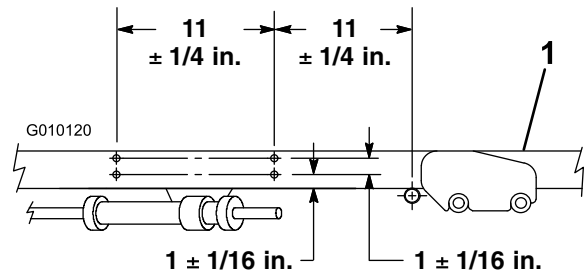

Figure 4
- Using the dimensions shown in Figure 4, locate, mark, and drill 4 holes (9/32 inch diameter) into the right-hand frame tube.